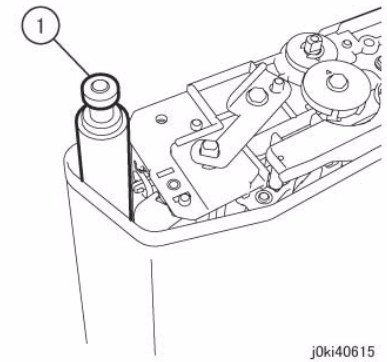

Figure 5 Remove the Backup Roll
10. Remove the Backup Roll. (Figure 5)